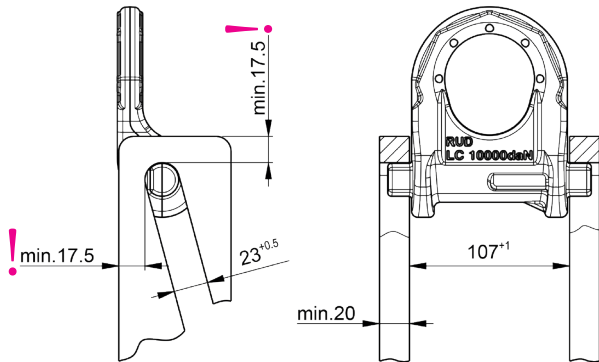

Fig. 7: Minimum cross-sections for installation (link)
- Note the minimum cross-sections of the connection plates (cf. Fig. 7).